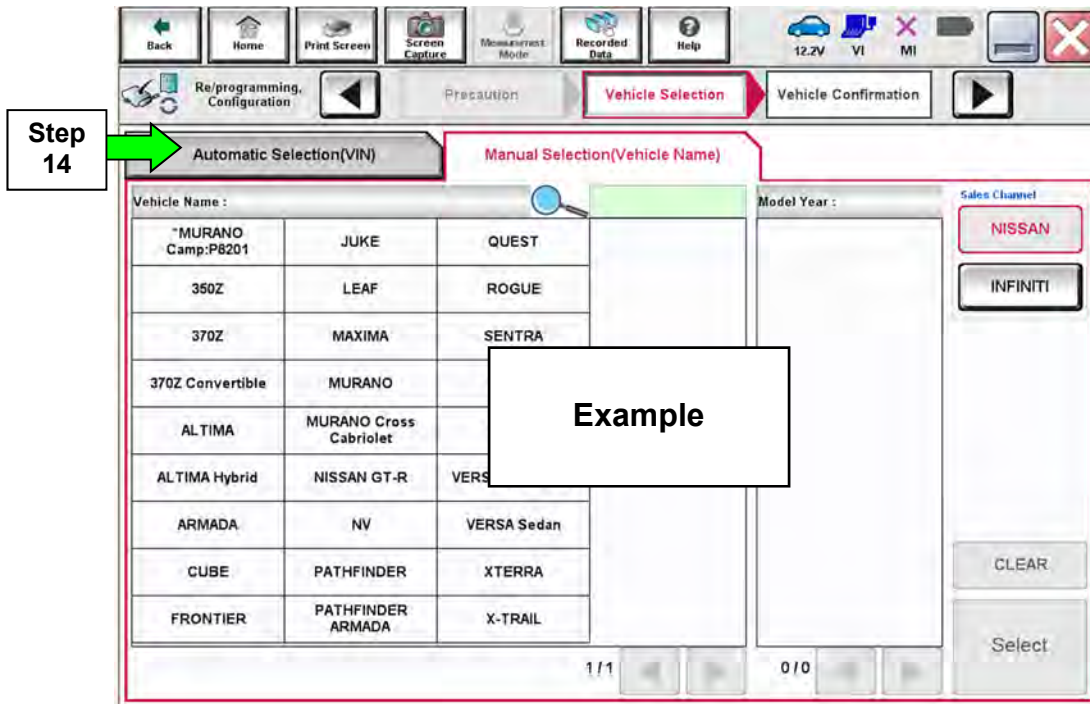

Figure 4
- If the screen in Figure 4 does not display, skip to step 15.